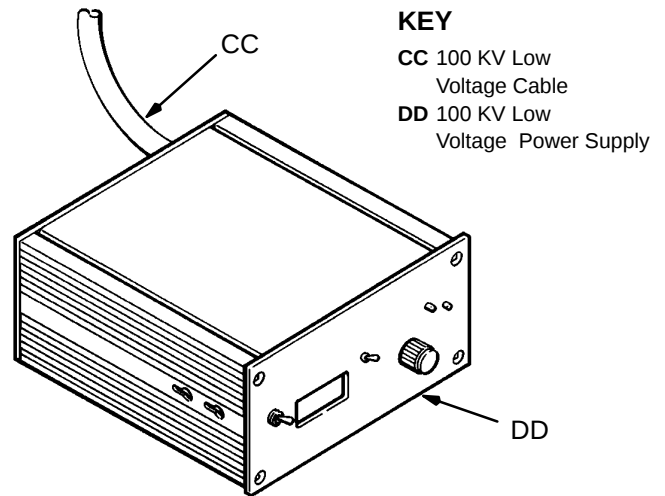

Fig 6
Be sure the low voltage power supply is OFF. Route the low voltage cable (CC) from the atomizer to the power supply (DD). Connect the plug. Refer to Fig 6.